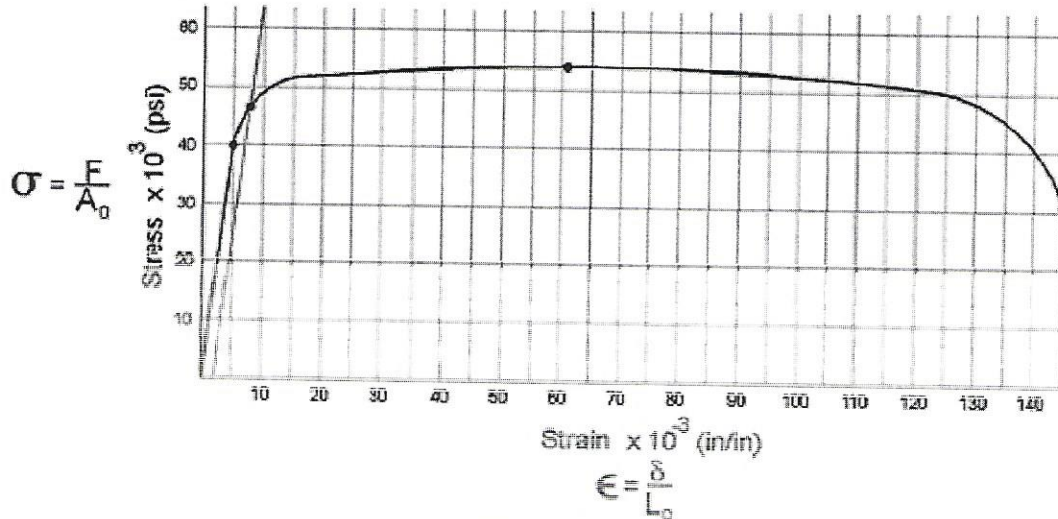

Figure 4
16. A test sample, having a cross-sectional area of  $0.2 \text{ in}^2$  and a 2 inch test length, was pulled apart in a tensile test machine. Figure 4 shows the resulting Stress-Strain diagram. Use the information in the diagram to answer the following questions.